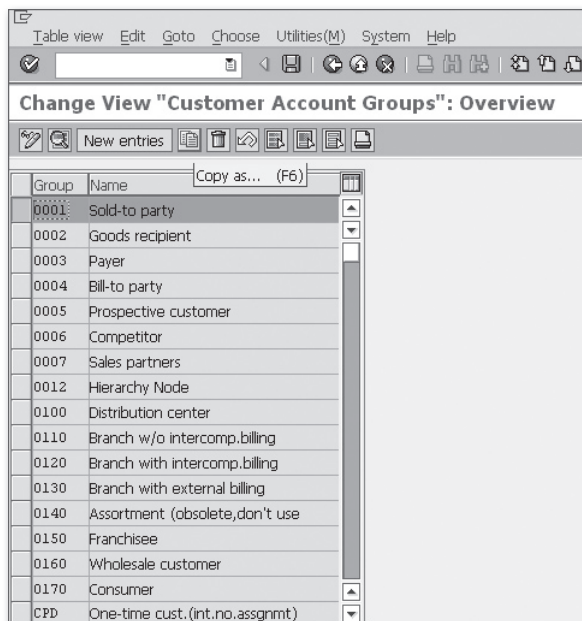
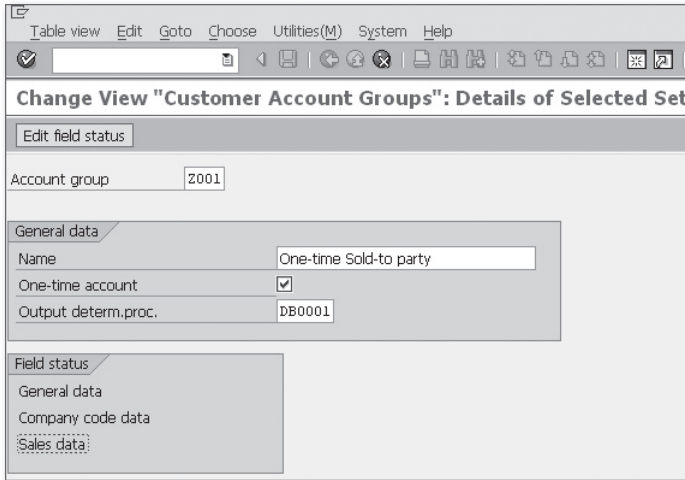

Figure 2.3 Creating a Customer Account Group
Figure 2.4 Customizing a Customer Account Group
1. Find the standard SAP template that is closest to what you want to create. Copy the selected template using the Copy As ([F6]) icon, as shown in Figure 2.3. The screen shown in Figure 2.4 appears with the message "Specify target entries."
3. Maintain field statuses. The customization of account groups also involves the maintenance of the field status of all customer master fields, also referred to as the maintenance of screen layout. This activity determines how the customer master screens look. Any field can have one of four statuses: *Suppressed*, *Required Entry*, *Optional Entry*, or *Display*. To assign a field status, double-click on General Data, Company Code Data, or Sales Data in the screen shown in Figure 2.4. (We have double-clicked on General Data in our example.)